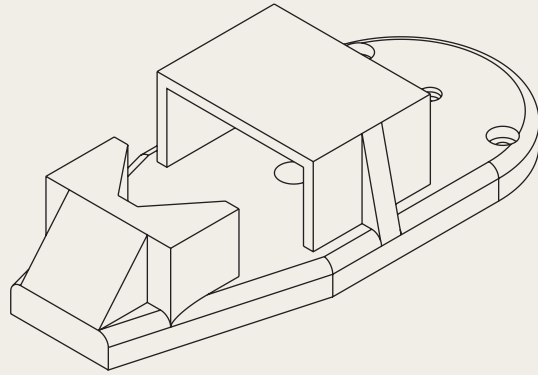
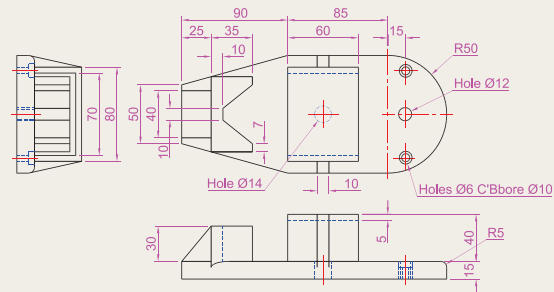

Fig. 7.30 Exercises 8 and 9 – an isometric drawing of the component for the two exercises
Fig. 7.31 Exercises 8 and 9
8. Construct a third angle projection of the component shown in the isometric drawing in Fig. 7.30 and the three-view first angle projection shown in Fig. 7.31.
9. Construct the isometric drawing shown in Fig. 7.30, working to the dimensions given in Fig. 7.31.